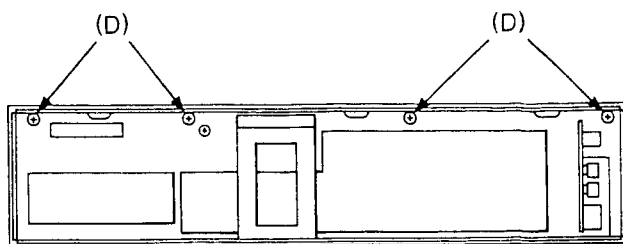

Fig. 3
4. Remove four screws (D) fastening Front Panel and then, pull Front Panel toward you. (Fig. 3)